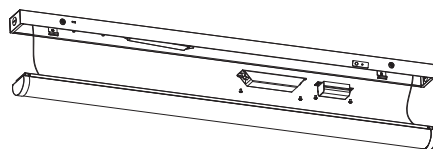

Figure 13
Step2. Assemble the backup driver to the lamp chassis (Figure 13)